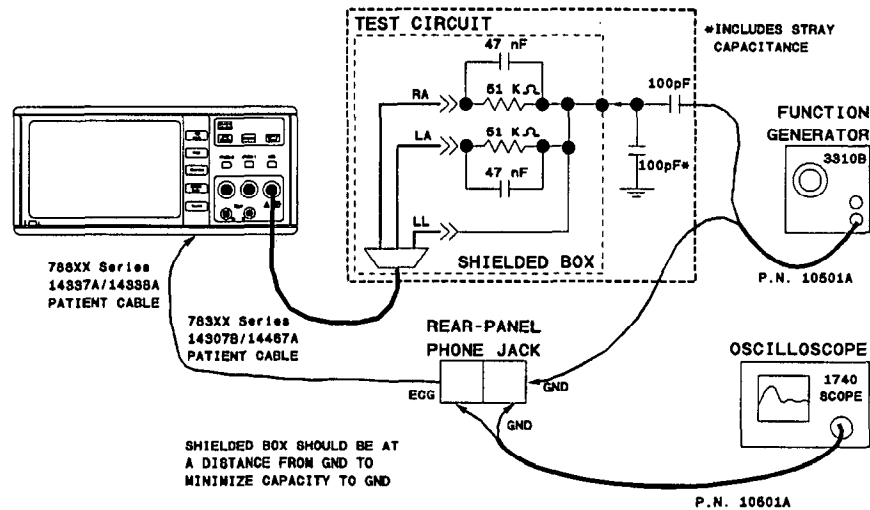

Figure 2b-6. Common Mode Rejection Set-up
- a. Connect test equipment as shown in Figure 2b-1.